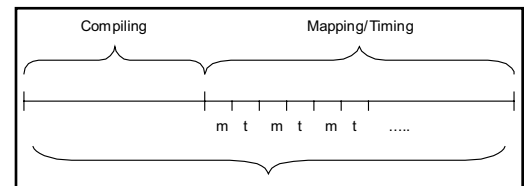

Figure 2: Breakdown of the synthesis flow into its major constituents
synthesis flow, enabling the highest design performance. Additionally, ILMs can be written out for any netlist or synthesized design, even from third-party tools. The use of ILMs and compile points in an overall synthesis flow is illustrated in Figure 2.
**Figure 2: Through the use of compile points and ILMs, the MultiPoint technology creates a very efficient synthesis flow. Integrity of sub-blocks is retained through the ILMs and runtimes, and computational requirements are dramatically reduced.**
While most ASIC designers regard a timing analyzer as being a back-end tool that is run a few times only after a design is fully synthesized, many fail to realize that it is also embedded in the heart of the synthesis flow. It is in here that a lightning fast timing engine, coupled with an efficient mapper, is critical in achieving very fast synthesis run times. To understand this better, consider the diagram in Figure 2.